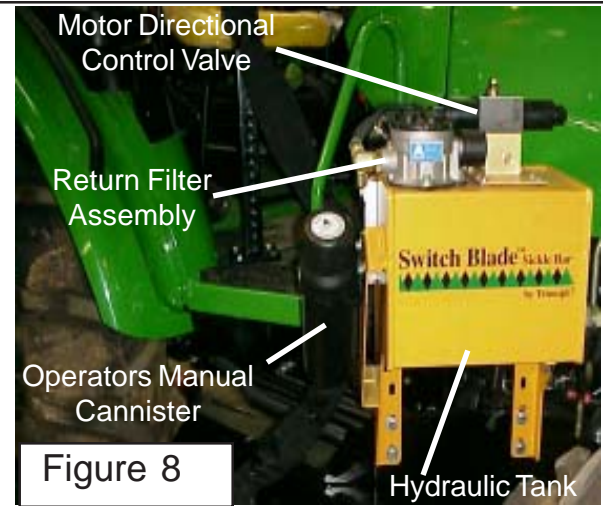

Figure 8
11. Install Operators Manual Cannister. The operator manual cannister bolts to the hydraulic tank on the side toward operator, this cannister should have the operators manual inside of it when shipped from the factory (See Figure 8). Note: The hydraulic tank has the return filter and directional control valve (Solenoid) already connected to it when shipped from the factory.